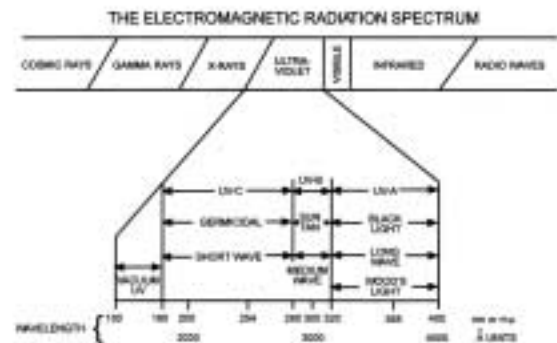

Figure 1. The Electromagnetic Radiation Spectrum.
Ultraviolet (UV) radiation, along with visible light, infrared, radio waves, x-rays, and the less familiar gamma rays and cosmic rays, is a form of electromagnetic radiation. (See Figure 1.)
Visible light is the only portion of the electromagnetic spectrum that can be seen by the human eye. Visible light radiates at wavelengths between 400 and 700 nm. UV radiates at shorter wavelengths, between visible light and X-rays. (See Figure 1.)
The author would also like to thank Spectronics Corporation of Westbury, New York, for permission to reproduce the diagram of the electromagnetic radiation spectrum illustrated in Figure 1.